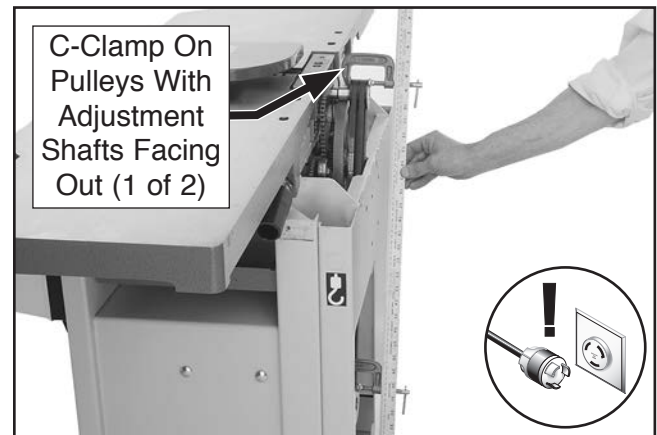

Figure 65. Checking belt alignment.
3. Place identical 2" C-clamps on each pulley with adjustment shafts facing out. Place a straightedge on the clamps, as shown in **Figure 65**, and visually check pulley alignment.